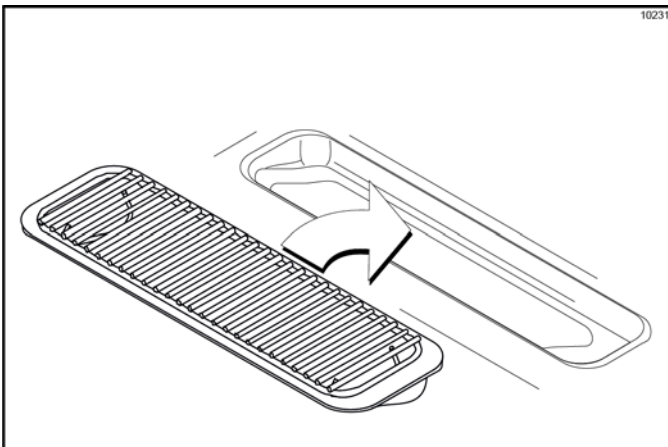

Figure 6-34
- Install the front drip tray and splash shield under the door spouts. (See Figure 6-34.)